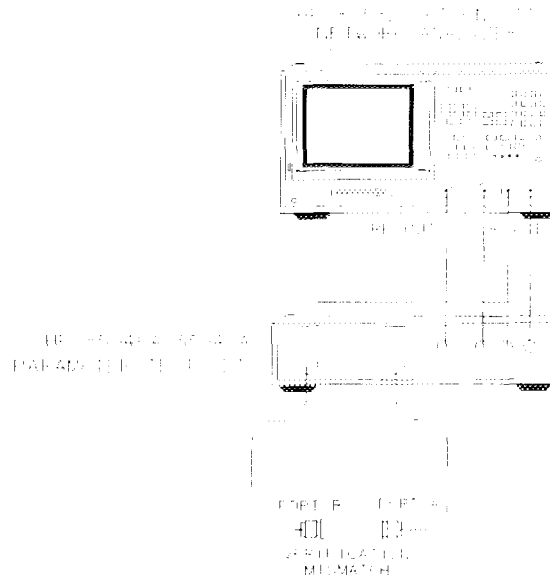

Figure 5-7. Mismatch Device Verification Setup
- 8 When the analyzer finishes all the measurements, reconnect the mismatch verification device, as shown in Figure 5-7.